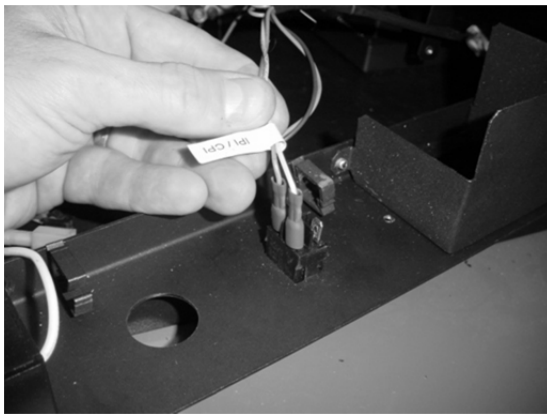
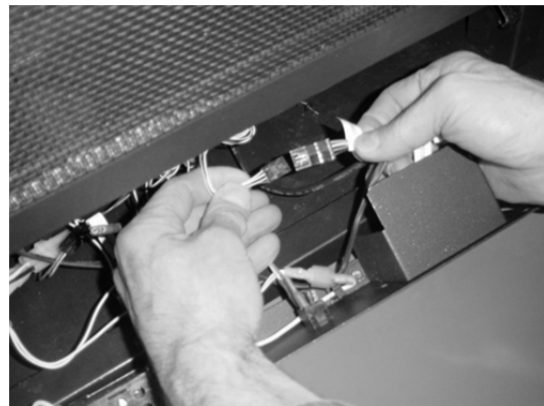

Figure 21
Figure 22
- 13 Attach the blue and white wires to the IPI/CPI switch (see Figure 21). Connect the wiring harness to the stepper motor (see Figure 22).